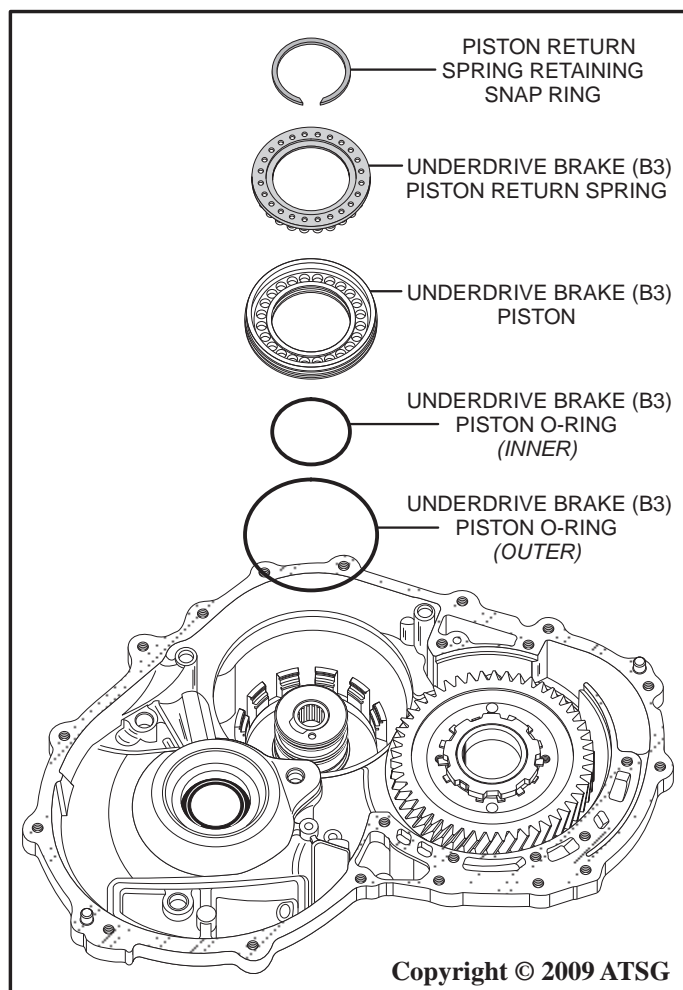

Figure 41
59. Using SST 09387-00020 or a similar device and a suitable press, compress the underdrive brake (B3) piston return spring assembly, then using a pair of snap ring pliers remove the piston return spring retaining snap ring as shown in Figure 41.
60. Remove the underdrive brake (B3) piston return spring assembly as shown in Figure 41.
61. Remove the underdrive brake (B3) piston as shown in Figure 41.
62. Remove and discard the underdrive brake (B3) piston o-ring (*inner*) and (*outer*) as shown in Figure 41.